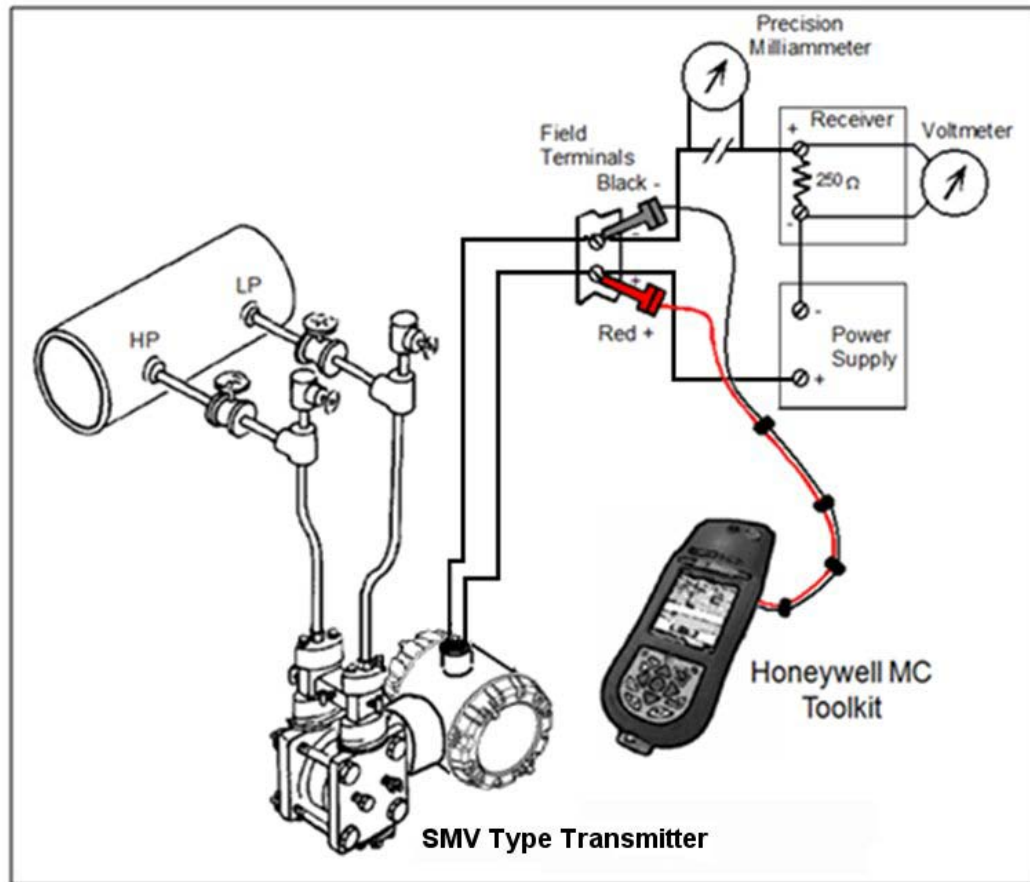

Figure 13 – Current Loop Test Connections
1. Refer to Figure 13 for test connections. Verify the integrity of electrical components in the output current loop.